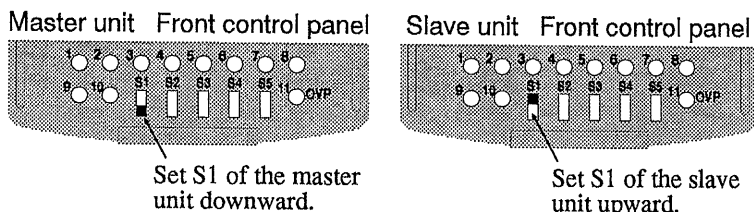

Fig. 3-13 Presetting of control switches for master-slave-control series operation
- ⑤ Set the control switch S1 of the master unit and slave units to the positions shown in Fig. 3-13.